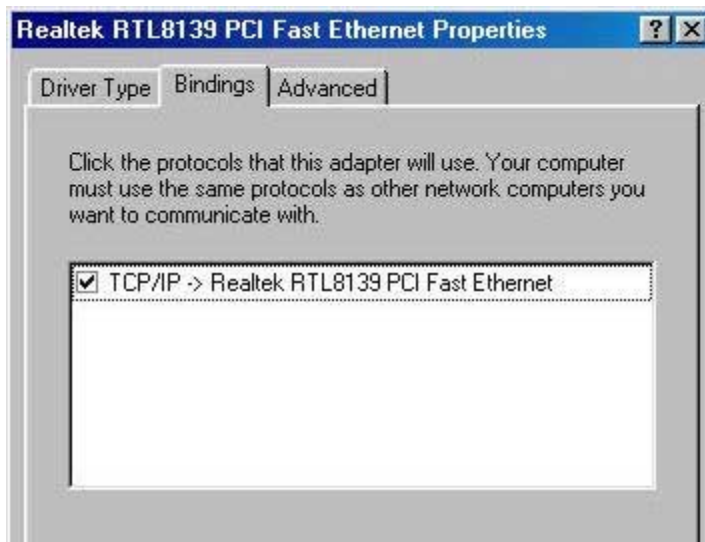

Figure 12.12.5.2
5. Under the Bindings tab, make sure that you have the option checked off which should read TCP/IP as shown in Figure 12.12.5.2.